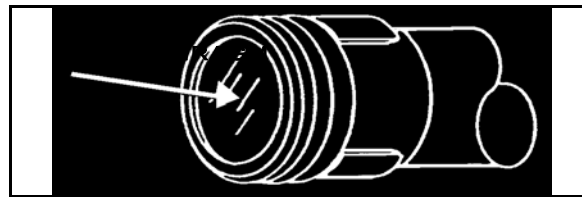

Figure 7. Nose diaphragms.
- b. Check the nose and rear diaphragms for damage (Figure 7, page 3-90).